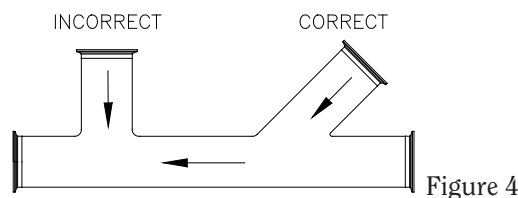

Figure 4
- Avoid abrupt transitions in the piping systems (Figure 4).